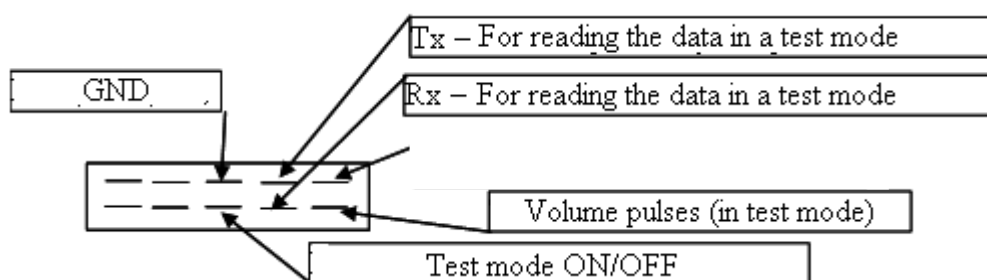
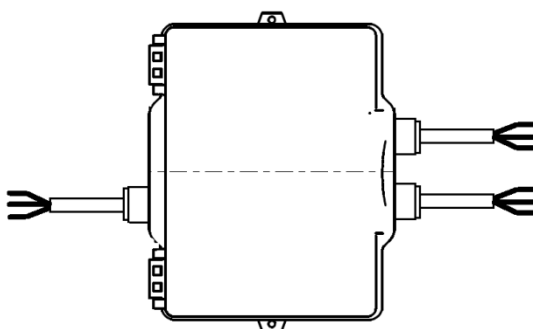

Fig. 6.3. Destination of contacts of connector J
Fig.A1. Cables connection of QALCASONIC FLOW 4.
The 2-line,10-pole connector is on the calculator plate between temperature sensors and pulse input/output terminals (see fig.A1, Annex A). Destination of contacts of connector J is presented in fig. 6.3.
The pulse outputs are active when the corresponding contacts of connector (J) are open (see Fig. 6.3)